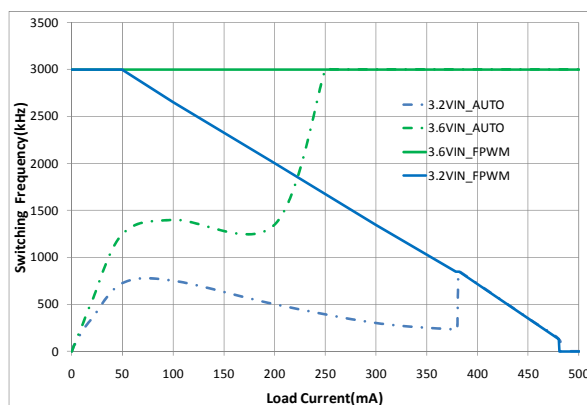

Figure 8. Effect of $t_{OFF(MIN)}$ on Reducing Switching Frequency
- Limited by the effect of t_{OFF} minimum (see Figure 8 in Typical Performance Characteristics).